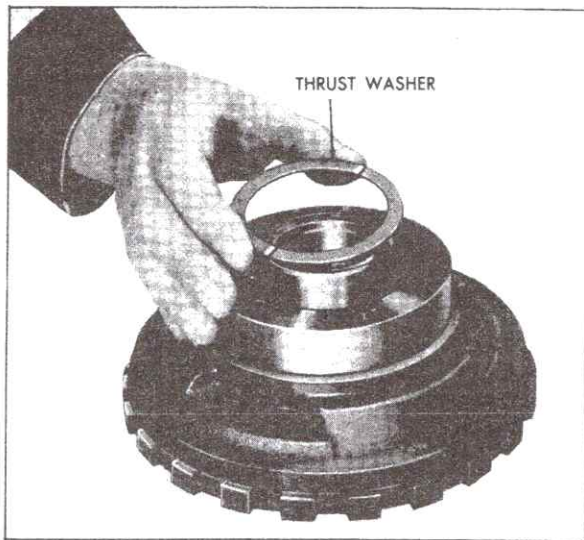

Fig. 7-46 Removing Center Support to Reaction Carrier Thrust Washer
11. Remove center support to reaction carrier thrust washer, Fig. 7-46.